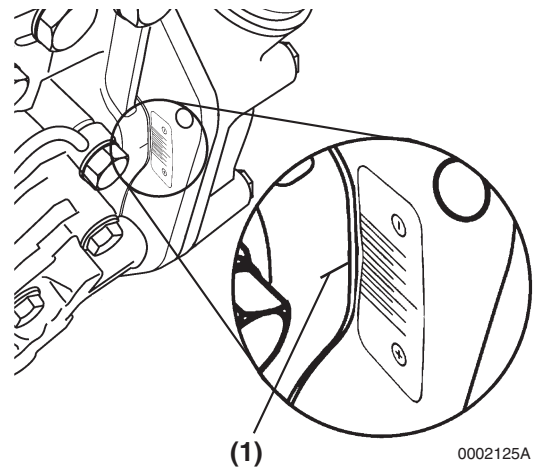

Figure 7-27
In this case, rotate the top of the fuel injection pump away from the cylinder block until the mark on the outside upper mounting boss (**Figure 7-27, (1)**) of the fuel injection pump aligns with the +0.5° mark on the timing sticker.